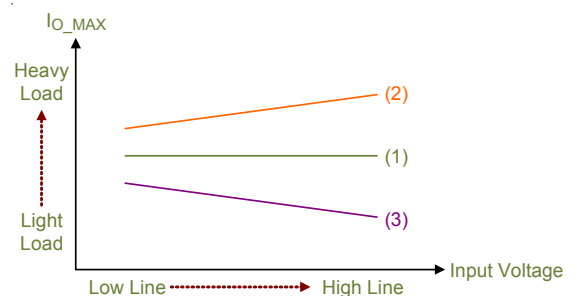

Figure 2. Output Current Limits for Over-Current Protection
To start with, $R_{PDC} = 470\Omega$ and $C_{RC} = 100pF$ can be used as reasonable initial setting for line compensation. In Figure 2, curve (1) is an ideal output current limit curve for over-current protection, which remains constant from low line to high line input voltages. If the output current limit curve is like curve (2), the resistance R_{PDC} should be increased. However, if the output current limit curve is like curve (3), the capacitance C_{RC} should be increased. The output current limit I_{O_MAX} under different line voltages can be optimized by adjusting the propagation delay resistor